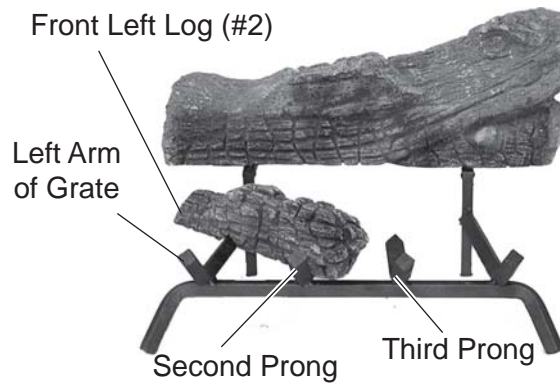

Figure 69 - Placing Front Left Log (#2) on Left Arm of Grate
3. Place Front Left Log #2 in front of back log on left arm of grate. Rest end of bottom left log between second and third prong of grate. *See Figure 69.*